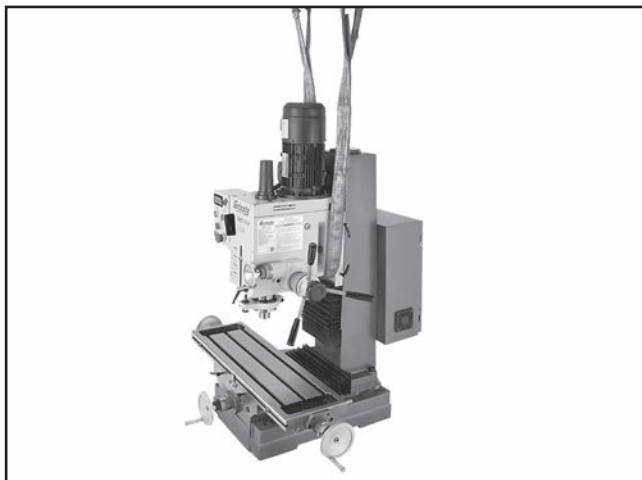

Figure 11. Recommended lifting sling position.
4. Place a lifting sling under the headstock, as shown in **Figure 11**, connect sling ends to a forklift, then lift and place machine.